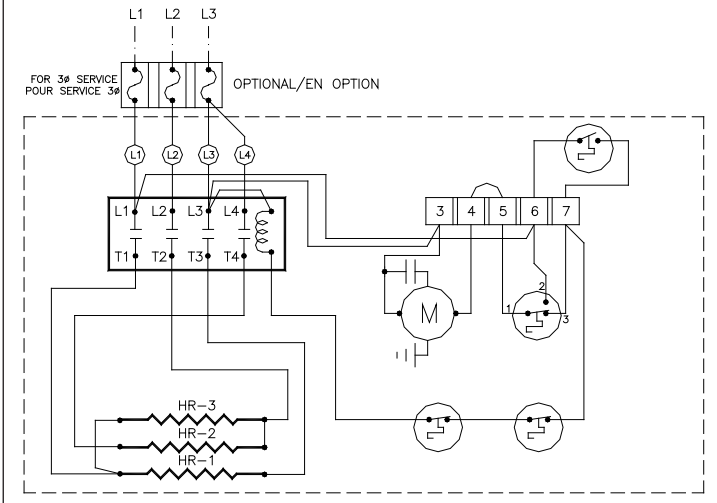

Figure 2
3. Remove two screws securing the access door (See Figure 2) and swing the door down to expose the wiring and control compartment.
4. Three knockouts are provided at the back of the heater for power and control wiring. (See Figure 2)